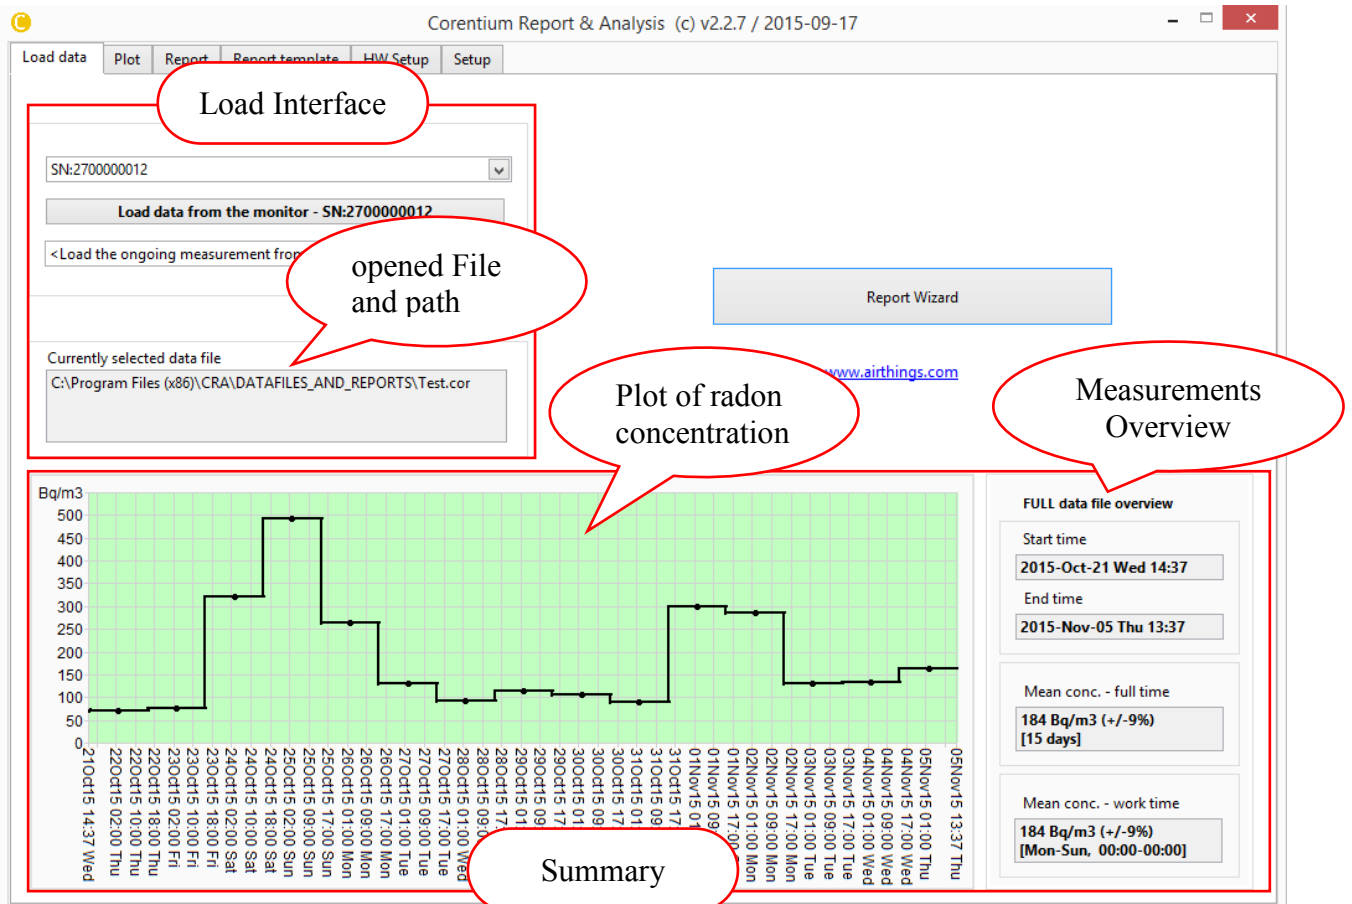

Figure 4-8: Overview of the uploaded data
- From Figure 4-8, Opened file and path to the file are indicated in Load interface section under "**Currently selected data file**". This shows the name of the active file.
- From Figure 4-8, the uploaded data is displayed in Summary section. **Plot of radon concentration** on the left side of the Summary section and the **Measurements overview** on the right side of the Summary section such as start time, end time, average radon concentration and average radon concentration for work time (part of the week defined in Report tab)
- From Figure 4-8, opened file and path are shown in Load interface section under **"Currently selected data file"**. This shows the name of the active file.
- From Figure 4-8, the uploaded data is displayed under Summary section. **Plot of radon concentration** on the left side of the Summary section and the **Measurements overview** on the right side of the Summary section.